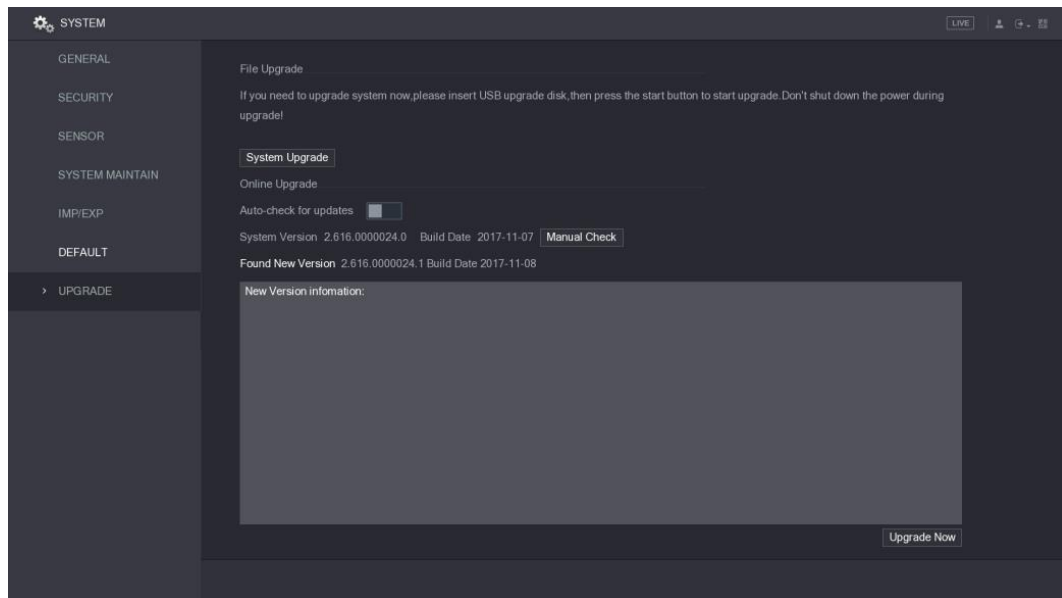

Figure 5-288
- If the text indicating there is a new version, please go the step 3. See Figure 5-288.